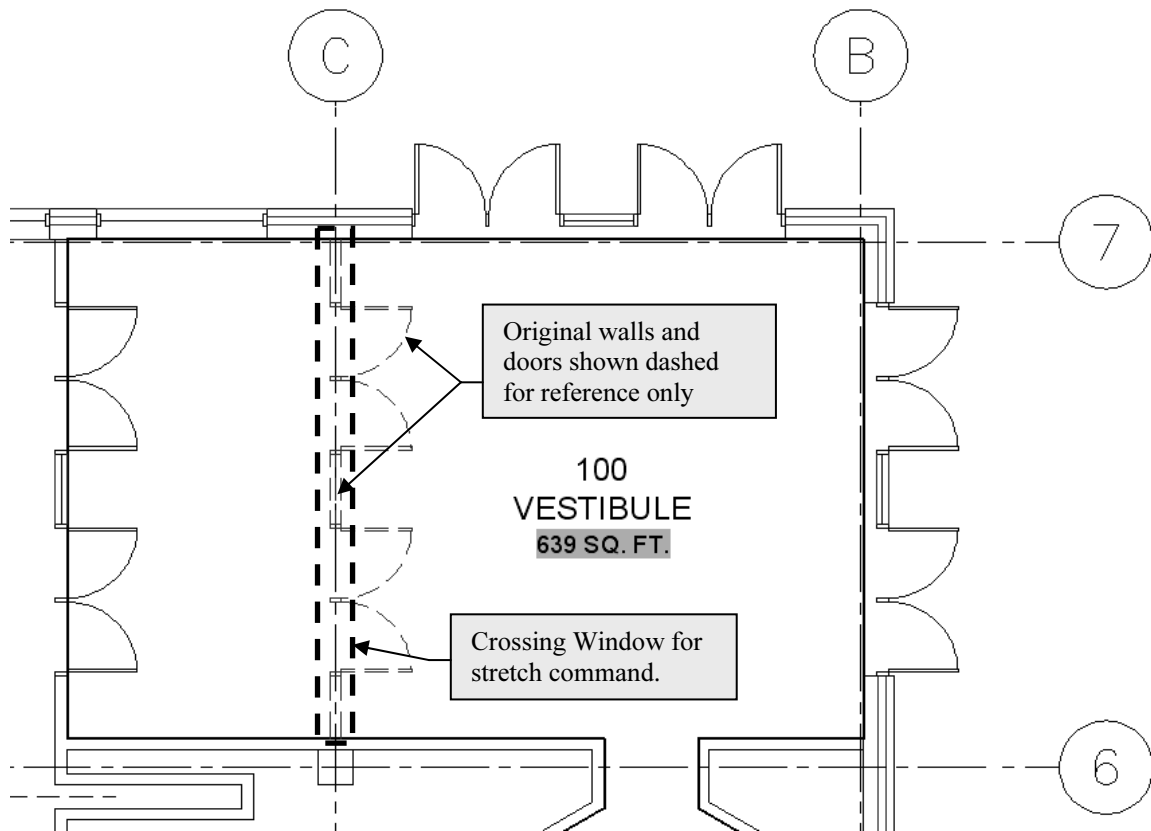

Figure 3-4.8 Stretching the vestibule wall
- c. Pick a **Crossing Window** (picking from right to left) as shown in Figure 3-4.8, being careful not to include the C/6 column's insertion point within the *Crossing Window*.